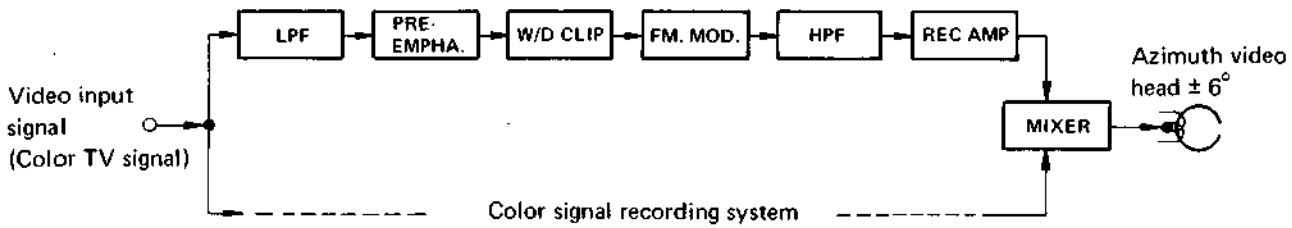

Fig. 1-39 Luminance signal recording system
Frequency modulation (FM) is used for the luminance signal recording system. A simplified block diagram of the system is shown in Fig. 1-39.